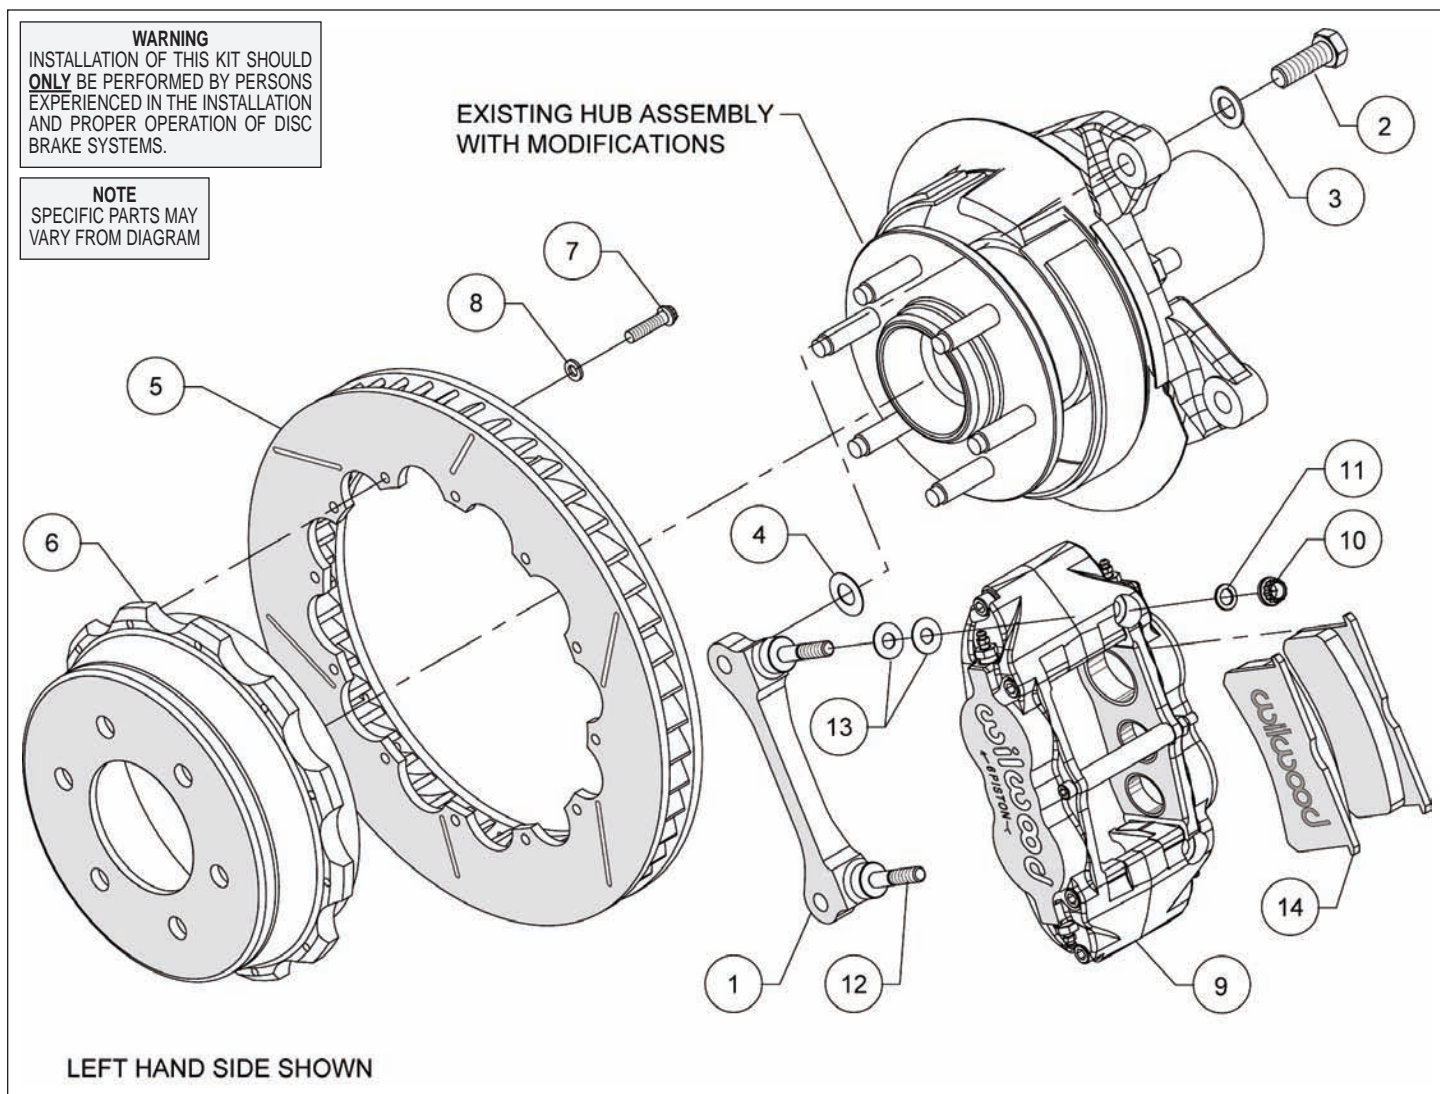
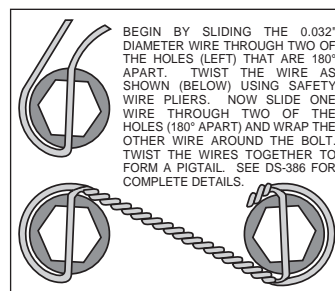

Figure 1. Typical Installation Configuration
Figure 4. Safety Wire Diagram
Assembly Instructions (numbers in parenthesis refer to the parts list and Figure 1 on the preceding pages):
- The caliper mount bracket (1) should initially be installed with clean, dry threads on the mounting bolts. Orient the bracket as shown in Figure 1 and Photo 1, and install using bolts (2) and washers (3). Initially place one .029 thick shim (4) on each bolt between the bracket and upright. Temporarily tighten the mounting bolts. **NOTE:** The bracket must fit squarely against the mount bosses on the upright. Inspect for interference from casting irregularities, machining ridges, burrs, etc. Later, after the caliper alignment has been checked, the mount bolts will be secured using red *Loctite*® 271.
- Orient the rotor (5) and the hat (6) as shown in Figure 1 and Photo 2. Attach rotor to hat using bolts (7) and washers (8). Using an alternating sequence, apply red *Loctite*® 271 to the threads, and torque to 155 **in-lbs**. The bolts **must** be safety wired using standard 0.032 inch diameter stainless steel safety wire as shown in Figure 4. Please refer to Wilwood's data sheet DS-386 (available at www.wilwood.com/Pdf/DataSheets/ds386.pdf) for complete safety wire installation instructions.
- NOTE:** This kit contains distinct right and left hand calipers that must be mounted in a specific direction, as described below. Lubricate the caliper mounting studs (12) with lightweight oil. Initially place two .035" thick shims (13) on each stud as shown in Figure 1 and Photo 3. Mount the caliper (9) onto the bracket (1) using lock nuts (10) and washers (11), Figure 1. Ensure that the caliper is mounted so that the largest pistons are at the rotor exit end of the caliper, in relation to the direction of rotor rotation. Temporarily tighten the lock nuts and view the rotor through the top opening of the caliper. The rotor should be centered in the caliper, Photo 4. If not, adjust by adding or subtracting shims (4) between the bracket and the upright. Always use the same amount of shims on each of the two mounting bolts. Once the